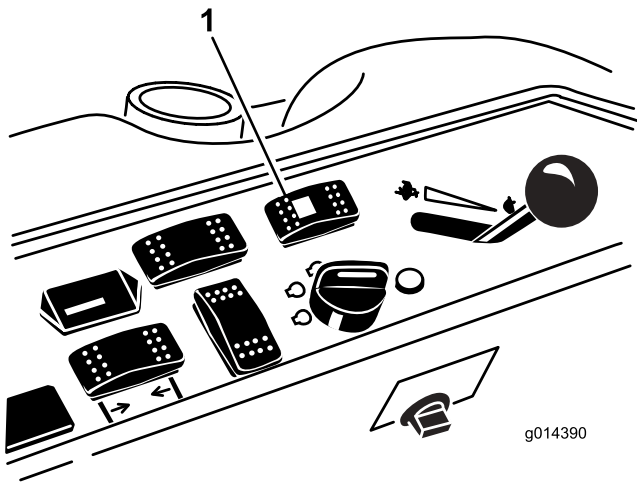

Figure 38
1. Press the steering selector switch to the rearward (four wheels steer) position (Figure 38).